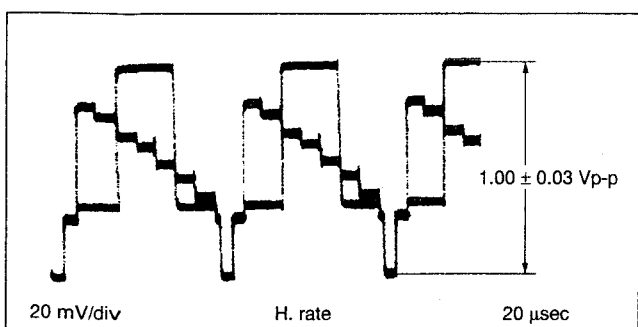

Fig. 3-3-6 PB Y level
- (1) Connect an oscilloscope to Y OUT TERMINAL.
- (2) Set the EVR mode by transmitting a data code "57" with the Jig RCU.
- (3) Set "A : 11" by twice pressing 1 button of the remote controller.
- (4) Record a colour bar signal in the S-VHS mode, and playback the recorded colour bar signal.
- (5) Adjust the CH "+" or "-" buttons for 1.00 ± 0.03 Vp-p as shown in Fig. 3-3-6.
- (6) Set the normal VCR mode by transmitting the data code "57" with the Jig RCU again so adjustment data is memorized.
- (7) Repeat steps (1) to (6) in the VHS mode.